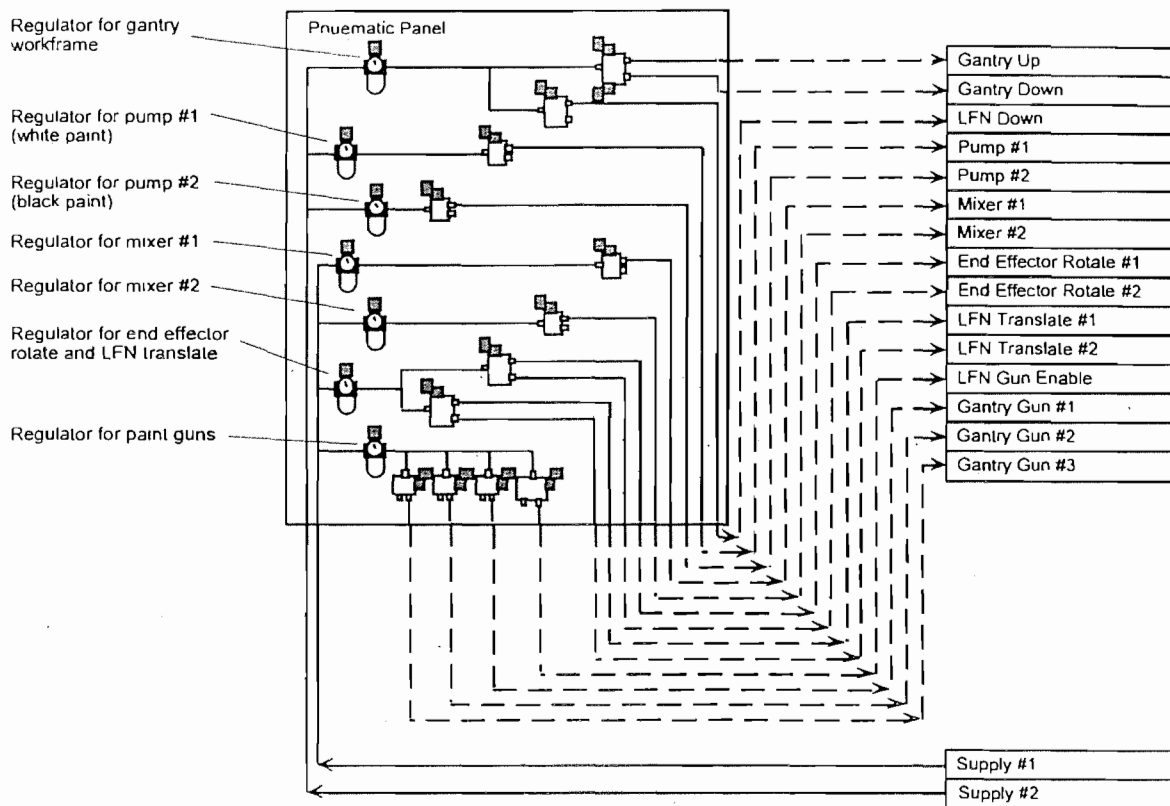

Figure 2.9.6: Regulator Panel
2.9.5 Adjust the black and white pump air regulators, located on the Regulator Panel, to approximately 60 PSI (Figure 2.9.6)
2.11.13 On the regulator panel, adjust the air regulator to 130 PSI for the black pump, and 115 PSI for the white pump. (Figure 2.9.6)